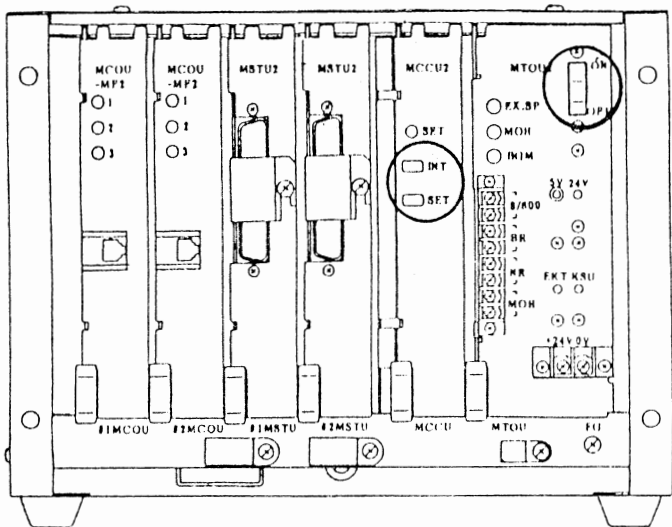

FIGURE 26
09.03 To initialize the system data memory, refer to Figure 26 and perform the following steps: